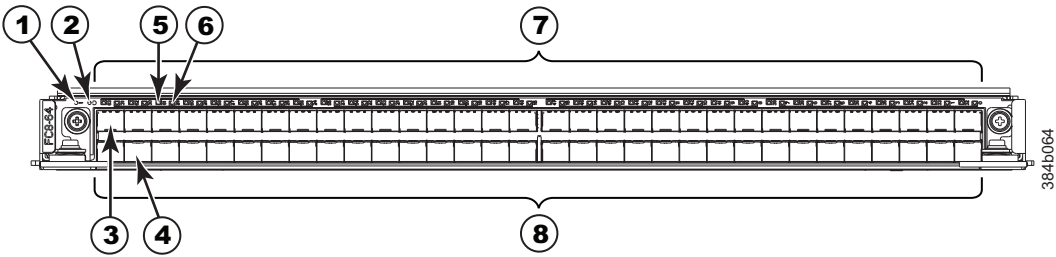

Figure 58. FC8-64 port blade
- Figure 58 on page 158 shows an FC8-64 port blade